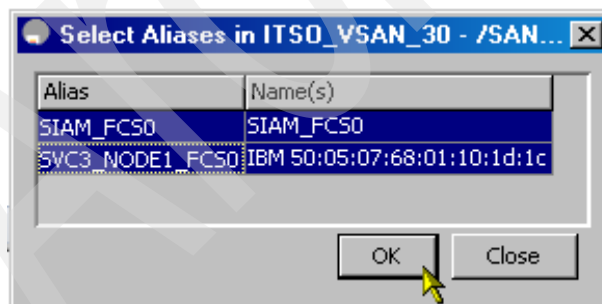

Figure 6-61 Selecting FC-Aliases as zone members
5. Select the two newly created FC-Aliases to be members of the zone and click **OK**, as shown in Figure 6-61.